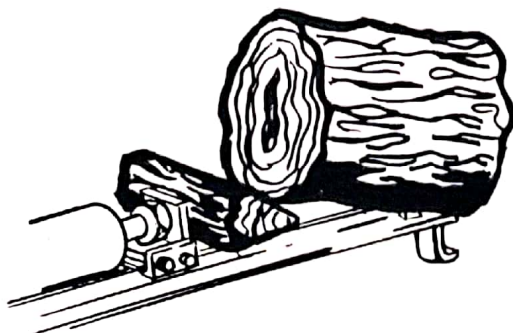

Figure 14
- If a log becomes stuck on the wedge, retract cylinder rod. Force a wooden wedge under back end of log, raising it up. Continue doing this with larger size pieces of wood until plunger block will slide under log. Extend cylinder rod completely forcing plunger block under log, rolling it up off the wedge. Rotate log and split it in a different area, splitting only one-third of the cross section. (Fig. 14 & 15)